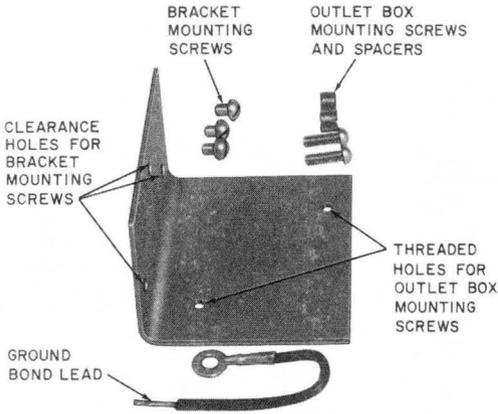

Fig. 4—B Mounting Bracket
2.04 The B mounting bracket (Fig. 4) is used to mount the B outlet box on recreational vehicles. It consists of a stainless steel angle-bracket with three clearance holes on one side for mounting to trailer tongue and two threaded holes on the other side for mounting the B outlet box. Included are three stainless steel thread cutting screws for mounting the bracket and two stainless steel screws with spacers for mounting the B outlet box on the B mounting bracket. A pigtail lead is included to connect between the center ground terminal of the B weatherproof male jack and one of the outlet box mounting screws to provide a ground bond to the vehicle frame (Fig. 9).